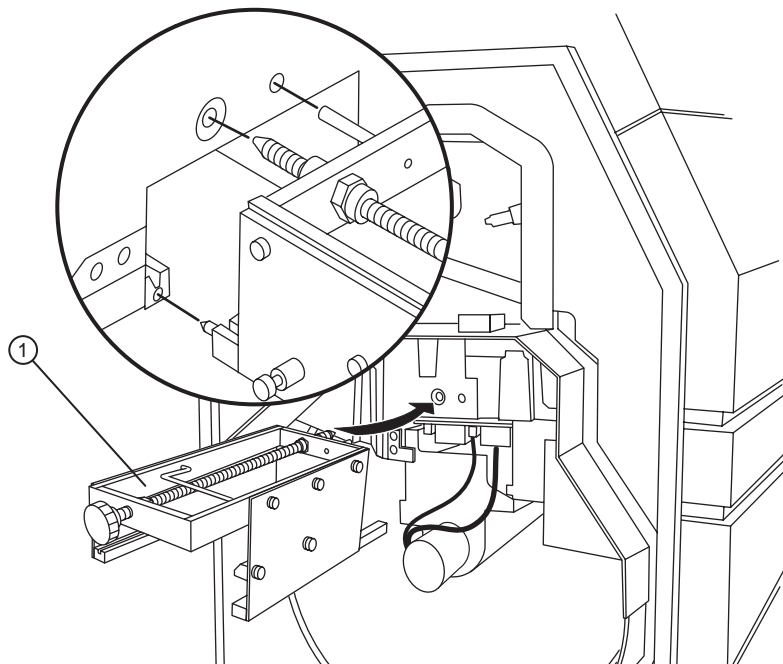

Figure 4-28 Inserting the carriage transfer tool.
7. Insert the carriage transfer alignment pin into the hole on the engine upper structure frame. Refer to Figure 4-28.
9. Unscrew the carriage transfer tool and remove it from the system. Refer to Figure 4-28.